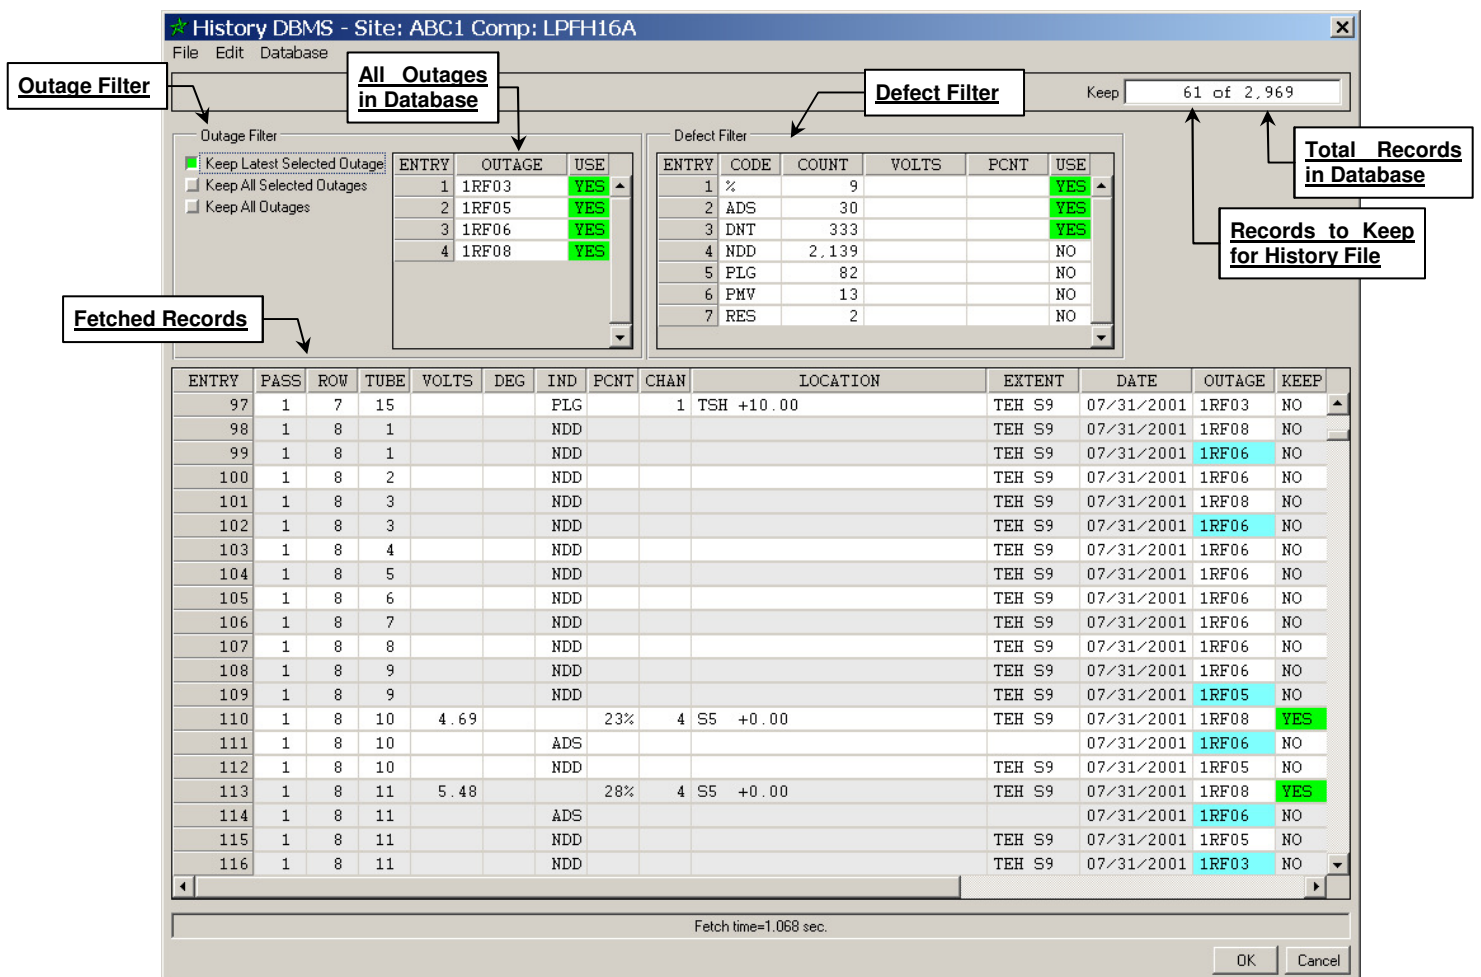

Figure 22. Database | Create History Dialog | Database | Fetch History
- **Database | Fetch History** retrieves all inspection records from the *report* table of the currently opened database and displays them in the lower portion of the **History** dialog as shown in Figure 22.
In Figure 22 , the **Defect Filter** section on the **History** dialog is comprised of a listing of all the indication or *defect* codes that exist in the currently opened database. In the example shown in Figure 22 , there are seven (7) defect codes displayed; therefore, a **History** file can be created using all or some of the inspection records from the *kept* outages AND the enabled defect codes. In Figure 22, the first three (3) defect codes will be *kept* as indicated by the **YES** beside each defect code in the **USE** column. To toggle the state of a **YES/NO** field in any **USE** column on this dialog, simply click in the field. To toggle the state of all the **YES/NO** fields at once in any **USE** column, click **USE**. In Figure 22 , only *percent (%)*, *ADS*, and *DNT* defect codes or *calls* from the latest selected outage in the **Outage Filter** section will be included in the **History** file. The **Keep** field in the upper right of the **History** dialog dynamically updates as any of the settings on the dialog are changed. The **Keep** field continually shows the number of records being *kept* based on the overall settings on the **History** dialog. The **Keep** field also displays the total number of inspection records in the currently opened database. In Figure 22 , the **Keep** field indicates that sixty-one (61) of the 2,969 available inspection records in the currently opened database will be included in the **History** file. The purpose of each column in the **Defect Filter** section is discussed below.
- **COUNT** displays the total number of each defect code for which inspection records exist in the *report* table of the currently opened database. For example in Figure 22 , the current database contains a total of 333 dent (*DNT*) calls.
- **VOLTS** may be used to further filter selected defect codes. Simply click in the **VOLTS** field for a defect code and set the desired voltage threshold. In Figure 24, a voltage threshold of  $\geq 5.00$  has been entered for the *DNT* defect code. Observe that only one (1) of the *DNT* calls for tube number 1-42-5 will be *kept* for the **History** file, while the remaining two (2) *DNT* calls will not be kept because they don't meet the voltage criteria. The number of records being kept has also changed compared to Figure 22 from sixty-one (61) to thirty-four (34).